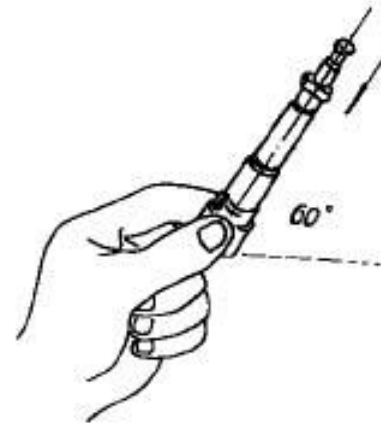

Fig. 2-45 Plunger sliding test
- Plunger sliding test: as shown in Fig. 2-45, hold the plunger matching parts soaked with kerosene at an angle of 60° , and pull the plunger out of its sleeve by two thirds, and when the plunger is released, the plunger should be able to slide into its sleeve by its own weight. Rotate the plunger to different position and repeat the above checks. If there is any jamming at some local position, apply some lapping compound on the plunger, insert the plunger into its sleeve, and lap the both the plunger and its sleeve in pairs. Lap them in reciprocal motion while rotating the plunger at the same time.